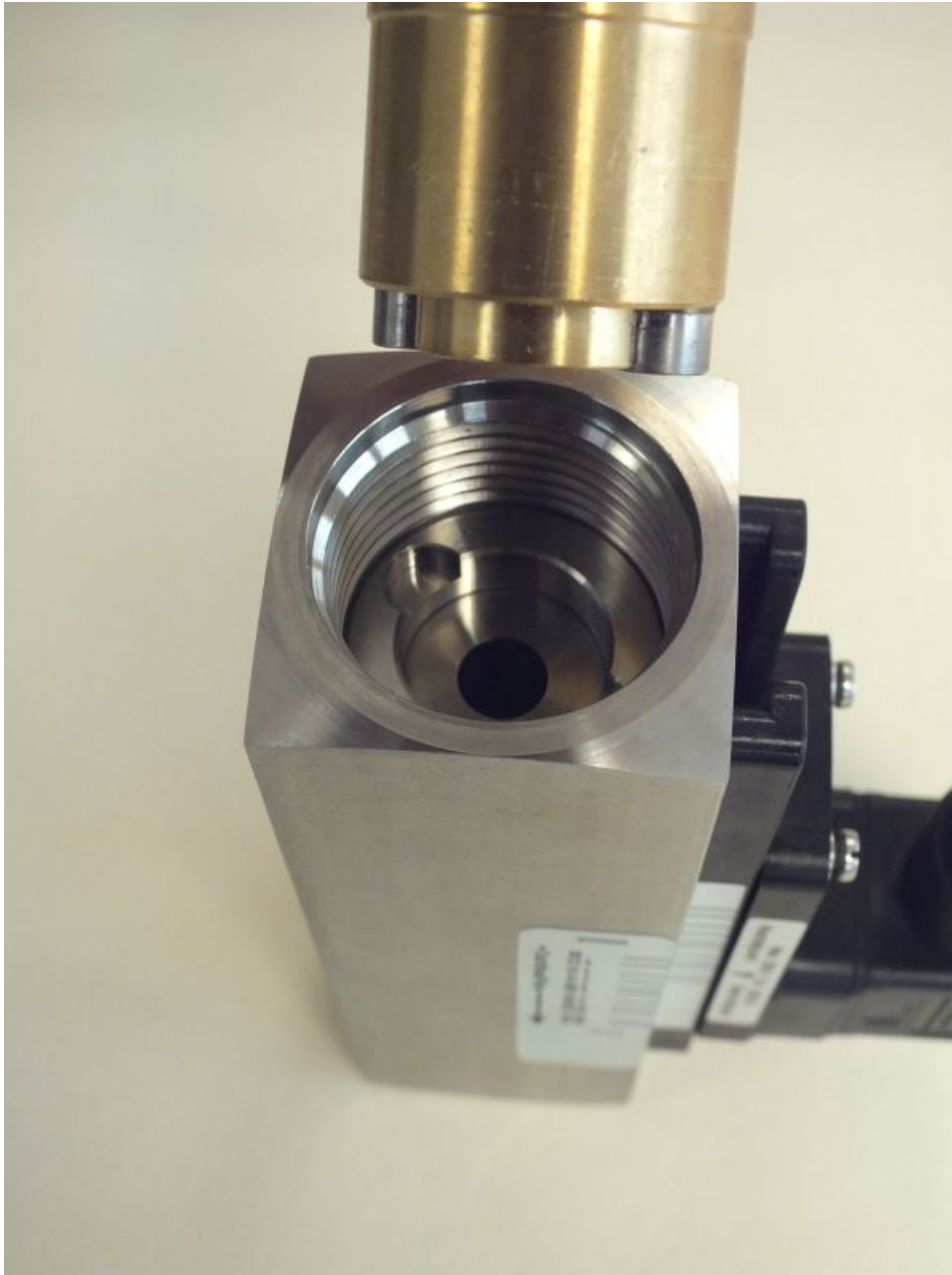

Fig. 57: Insert threaded ring insertion tool (inlet)
- 15.** ▶ Insert the threaded ring insertion tool into the device inlet (*Fig. 57*) and turn until it rest in the keyway of the threaded ring